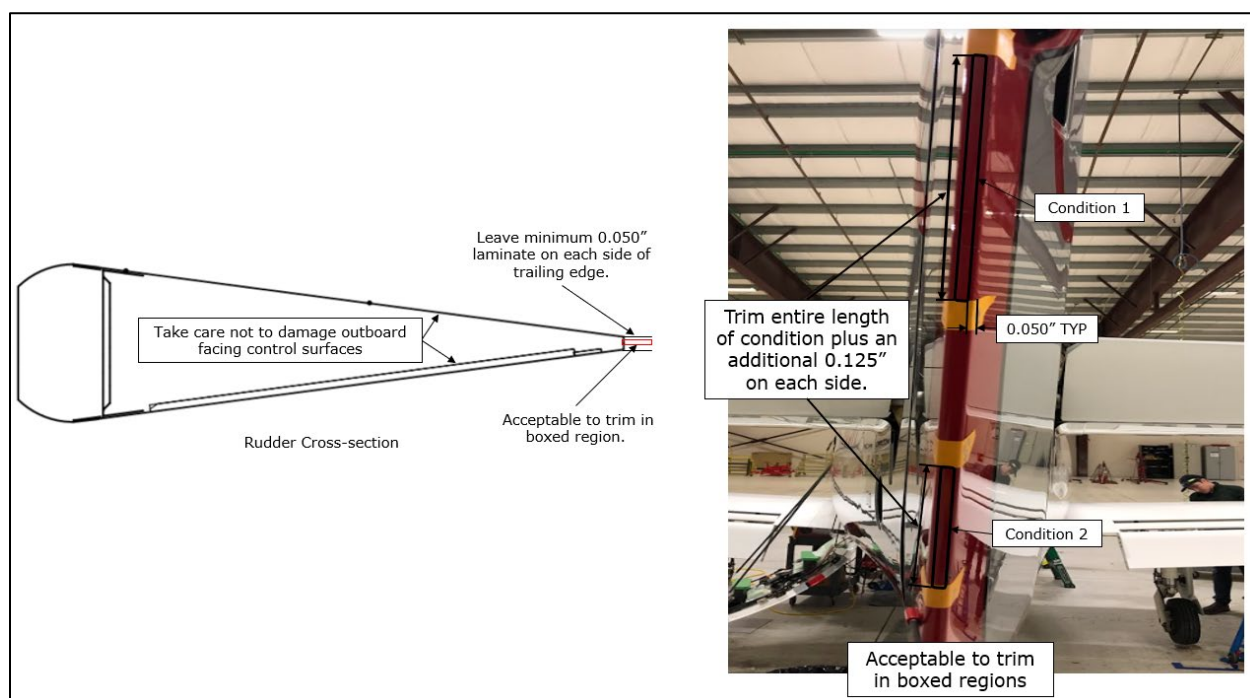

Figure 3: Material Removal Limits
6. Working from the trailing edge, carefully remove the adhesive and damaged material in the voided region for both conditions 1 and 2. Adhesive removal is to extend 0.125" above and below the disbonded/void area until all disbonded/voided adhesive is removed. It is acceptable to trim carbon fiber laminate skin structure from the trailing edge to expose the discrepant area but ensure the final dimension from the edge of the trimmed region to the outboard facing surfaces of the Rudder Skin are not reduced below 0.050" on either side. Refer to Figure 3 for material removal limits and region.
7. Trim the trailing edge of the rudder in the void region as needed to provide access to the bond line at both conditions. It is acceptable to trim laminate from the trailing edge but do not reduce the distance between the edge of the trimmed region and the outward facing surface of the rudder skin below 0.050". See Figure 3 for material removal region.